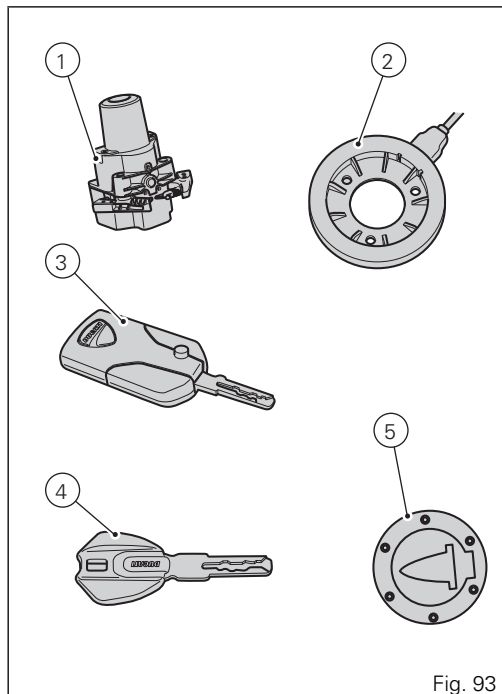

Fig. 93
A Key-On can be performed by pressing the red button (6) on the handlebar in the HANDS FREE ON/OFF position and in the presence of the active key (3, Fig. 93).
Key-Off can be performed by pressing the red button (6) on the handlebar in the HANDS FREE ON/OFF position. It can be done also without the key (3, Fig. 93) only if the motorcycle speed is equal to zero.
Key-On can be performed by pressing the button (7) on the Hands free lock (1, Fig. 93) and with the presence of the active key (3, Fig. 93).
Key-Off can be performed by pressing the button (7) on the Hands free lock (1, Fig. 93), also without the key (3, Fig. 93).
A Key-On can be performed by pressing the red button (6) on the handlebar in the HANDS FREE ON/OFF position and in the presence of the passive key (4, Fig. 93).
Key-Off can be performed by pressing the red button (6) on the handlebar in the HANDS FREE ON/OFF position. It can be done also without the key (4, Fig. 93) only if the motorcycle speed is equal to zero.
Key-On can be performed by pressing the button (7) on the Hands free lock and with the presence of the passive key (4, Fig. 93).
Key-Off can be performed by pressing the button (7) on the Hands free lock (1, Fig. 93) also without the key (4, Fig. 93).
Key-On can be performed by pressing the button (7) on the hands free lock (1, Fig. 93) without the presence of the keys (3, Fig. 93) and (4, Fig. 93) and entering the pin code on the dashboard.